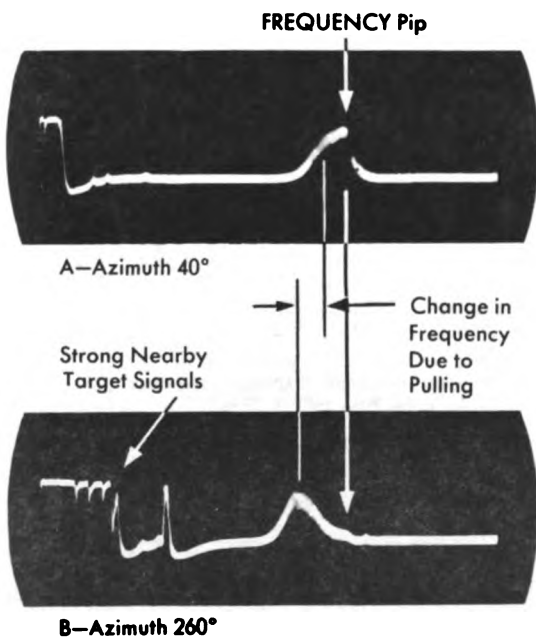

Figure 3-12. Checking Transmitter Pulling and AFC Tracking
(3) **CHECK FOR PULLING AND PROPER AFC TRACKING.**—Start radar antenna nutator or spinner motor. If the f-m signal moves, there is probably pulling (see figure 3-12). If it remains on the screen, the AFC is tracking satisfactorily.